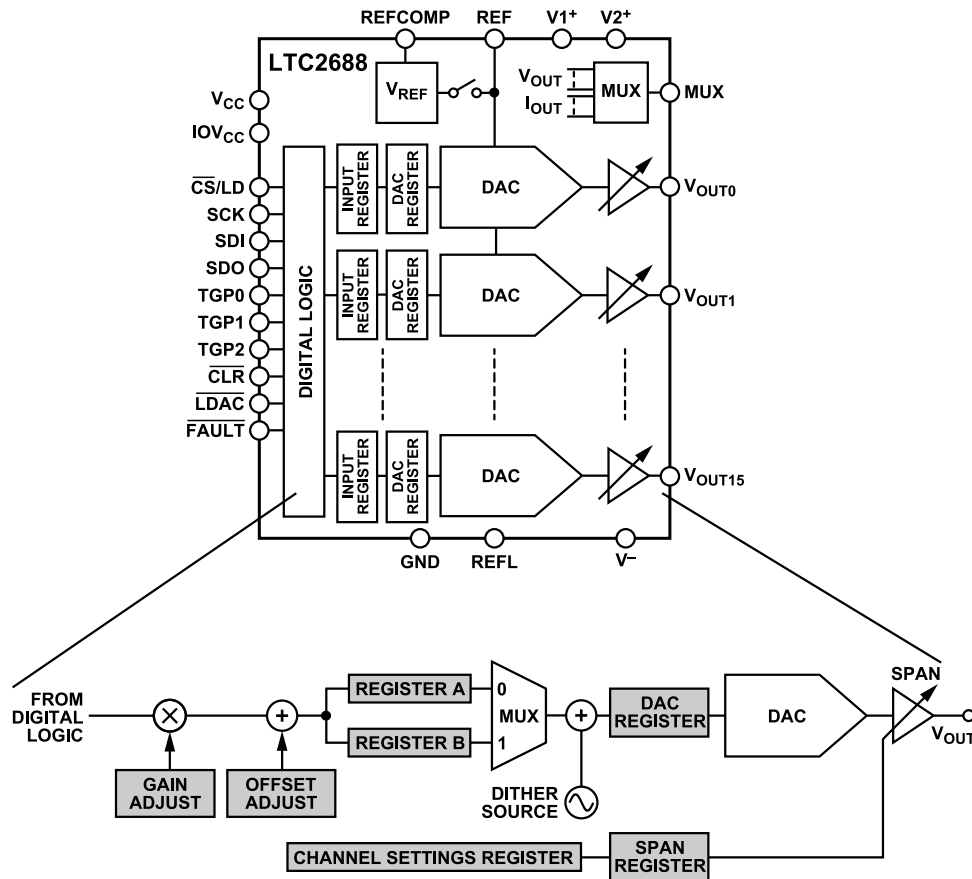

Figure 47. Block Diagram
- Input register: the write operation shifts data from the SDI pin into a chosen input register. The input registers are holding buffers. Write operations do not affect the DAC outputs directly. In the code datapath, there are two input registers, A and B, for each DAC register. Input Register B is an alternate input register used only in toggle and dither operation, whereas Input Register A is the default input register (see Figure 47).
- DAC register: the update operation copies the contents of an input register to its associated DAC register. The content of a DAC register directly controls the DAC output voltage or range. The update operation also powers up the selected DAC if it was in power-down mode. The datapath and registers are shown in Figure 47. Updates always refresh both code and span data, but the values held in the DAC registers remain unchanged unless the associated input register values have been changed via a write operation. For example, writing a new code and updating the channel updates the code, but the span is unchanged. A channel update can come from a serial update command, an LDAC negative pulse, or a toggle operation.